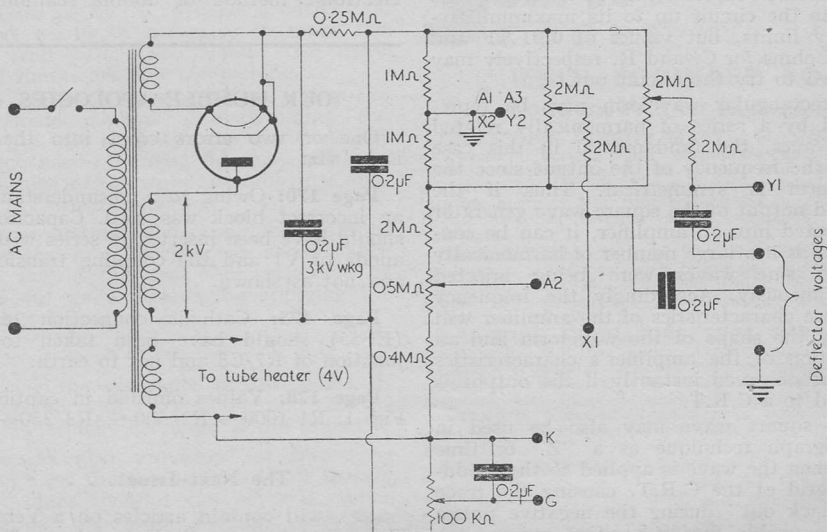

Fig. 1. Resistance network for CRT. The letters G, K, A, etc., denote the cathode ray tube electrode connections
**Page 178:** Values omitted in caption of Fig. 1: R1 1000 $\sim$ , R2 500 $\sim$ , R3 250 $\sim$
The VCR-97 or the ECR60 or E4504B16 to give it its civilian type numbers has proved to be one of the most popular cathode ray tubes available at the present time. Its chief application is as an oscilloscope tube, but it has also been used with considerable success in home built television receivers. The normal operating voltage for the final anode of the VCR97 is 2000v., with a focussing anode voltage of between 250 and 450v. This latter voltage should be made adjustable for focussing. The grid base is approximately 0-80v. when the tube is operated under optimum conditions, minus 80v. being the voltage required to completely cut off the beam. Fig. 1 shows the method of obtaining the various electrode potentials from a potential divider which is connected across the 2000v. supply. It will be noted that the positive side of the supply is taken to earth to assist in preserving the stability of the trace, this procedure also rendering unnecessary the use of high voltage coupling capacitors in the deflector plate circuits. The two 2 M~ potentiometers are for the purpose of shifting the spot or trace to any desired position on the screen. This is achieved by varying the potential of one plate with respect to that of the opposite plate. This voltage should be capable of being adjusted either positively or negatively with respect to the other plate and consequently also to the first anode. It is important, if deflection defocussing is to be avoided, that the deflector plates should be approximately at the same potential as the final anode. This is achieved by feeding the signal to the deflector plates through a capacitor and returning the plate resistor to the final anode.